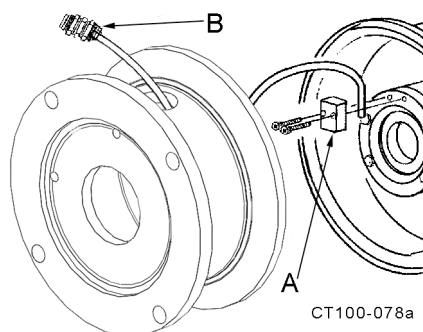

Figure 18 - Cascade System Installation
When the Type 1 with Cascade seal type option is ordered, a fitting assembly (Figure 18, item A) is supplied for directing a flow of water onto the backplate/seal area.
- The connection (Figure 18, item B) is 1/4 inch (6.35 mm) O.D. tubing.